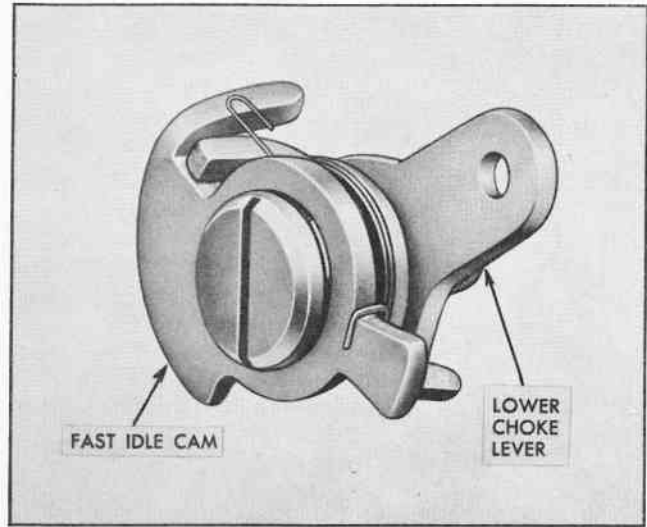

Fig. 20 Fast Idle Cam and Lower Choke Lever
- a. Assemble fast idle cam and spring assembly and lower choke lever and place over attaching screw and set aside (Fig. 20).